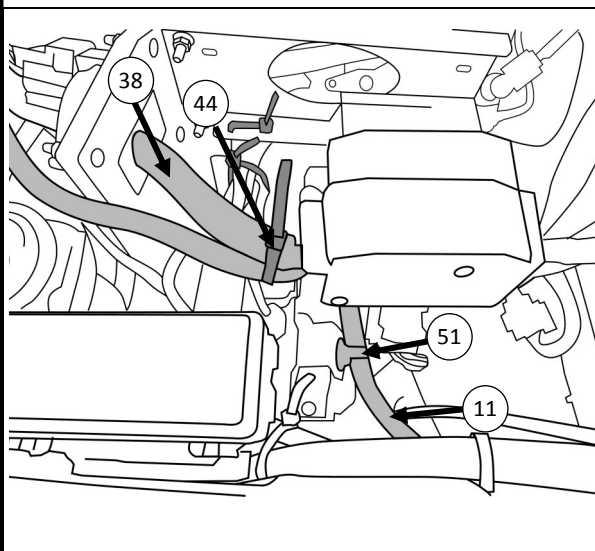

Figure 32: Secure Winch Controller Harness
- Secure Winch Controller Harness (Item 11) to Cable Positive (Item 38) with 1X Cable Tie 200mm (Item 44) in position shown in Figure 32.
- Fit 1X 7x12 Clip - Cable Tie 140mm (Item 51) to OE injector module bracket slot and secure Winch Controller Harness (Item 11) in position shown in Figure 32.